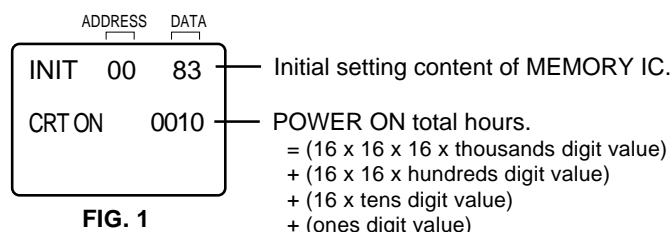

FIG. 1
2. While holding down VOLUME button on front cabinet, press key 6 on remote control simultaneously for more than 1 second.
3. ADDRESS and DATA should appear as FIG 1.